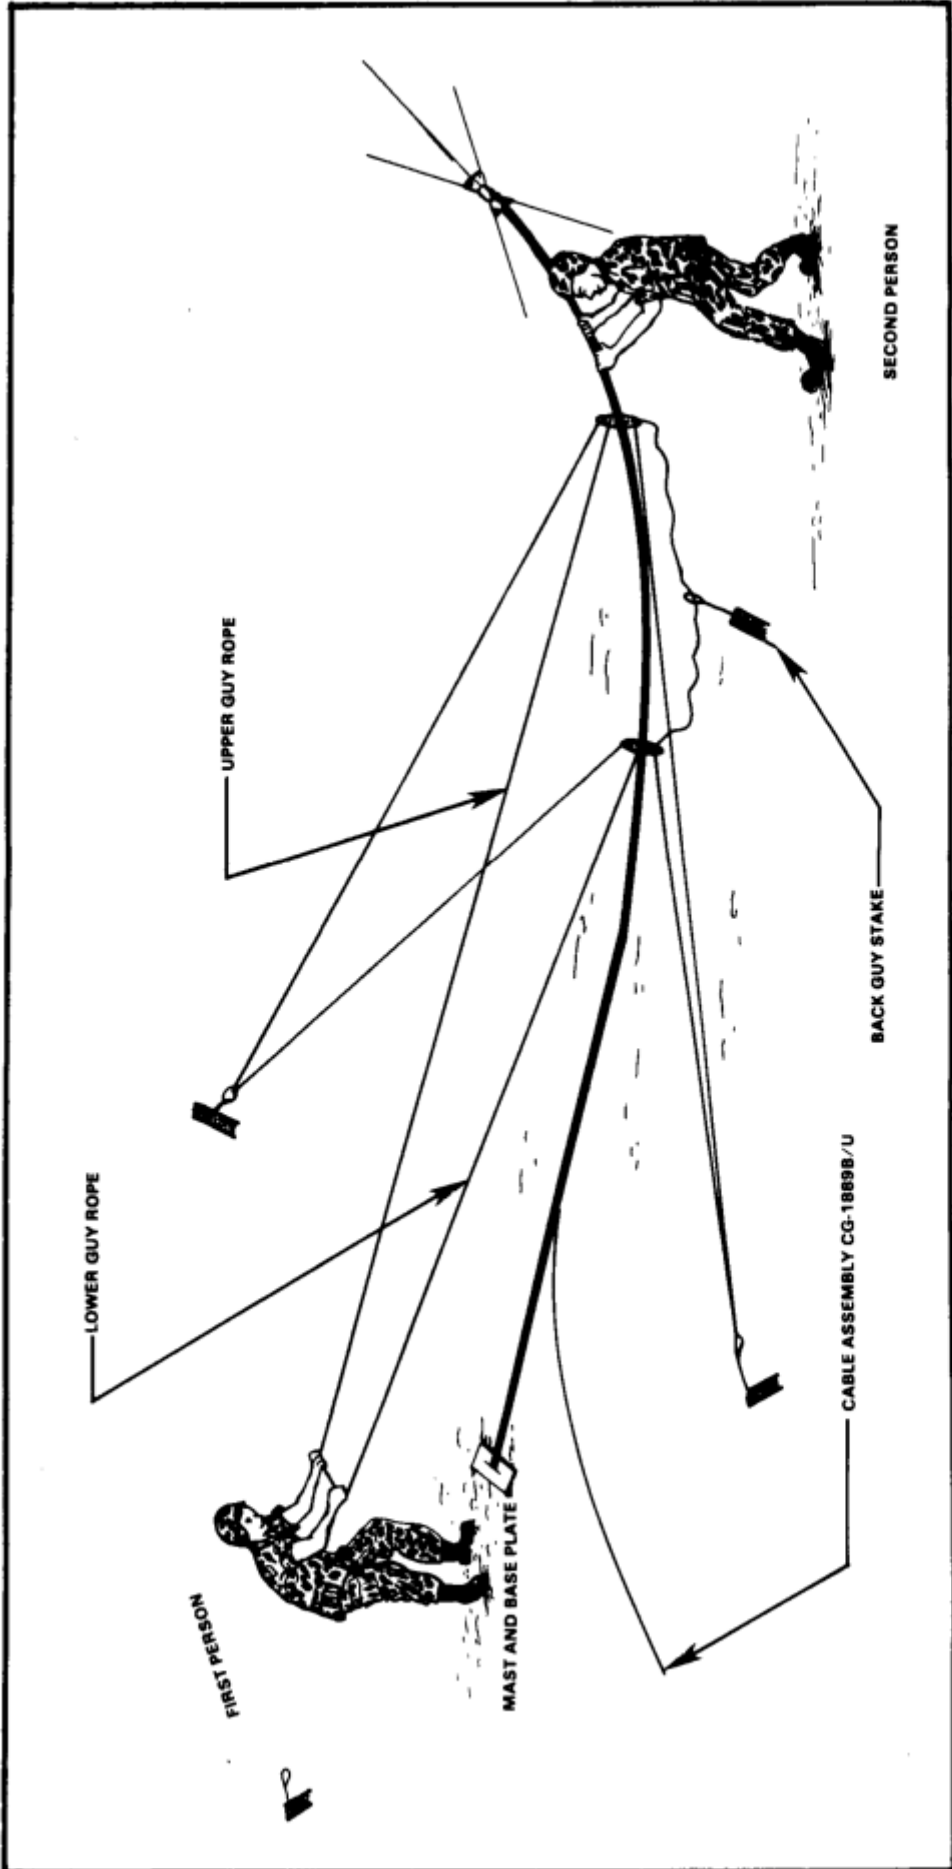

Figure 3-14. Erecting antenna group OE-254/GRC.
e. Make sure that the mast assembly is laid out straight and crosses beside one guy stake (the back guy stake, Figure 3-14).
g. Lay the two bottom (upper and lower) guys along one of the tightened side guys and adjust them to the same length. Attach the bottom guy ropes to the back guy stake (Figure 3-14).
- (1) Installer—near the baseplate assembly in line with the far guy stake holding the free guys (Figure 3-14).
- (2) Assistant—at the top holding the antenna at shoulder height.